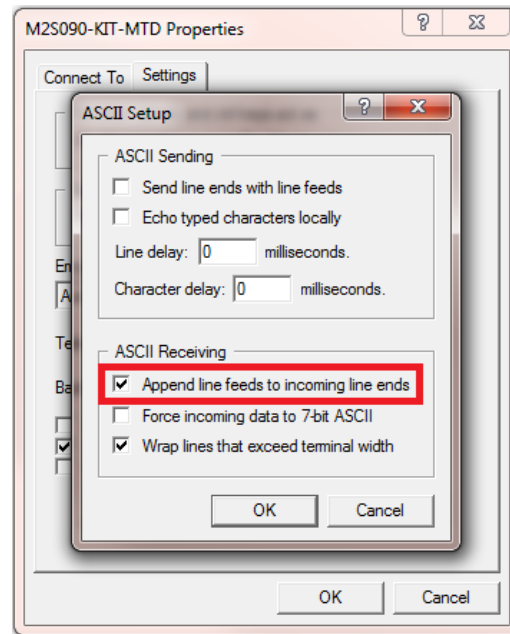

Figure 35 ASCII Setup Window
9. Keep the default settings and click **ASCII Setup**. The ASCII Setup dialog-box is displayed, as shown in Figure 35.